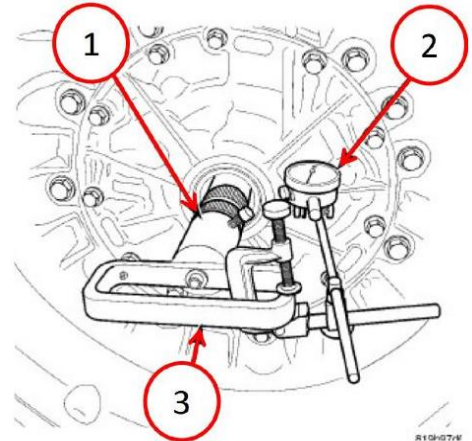

Fig. 3
- 32. Using Adapter Socket, End Play 826622 and the handle from End-Play Tool Set 8266B and Dial Indicator C-3339A, measure and record the input shaft endplay (Fig. 3).